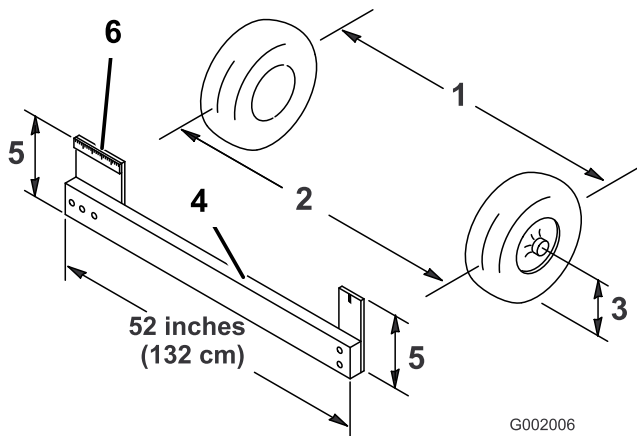

Figure 54
4. Measure the distance between both of the front tires at the axle height at both the front and rear of the front tires (Figure 54). A fixture or alignment gauge is needed for the rear measurement of the front tires at axle height. Use the same fixture or alignment gauge to accurately measure the front of the front tires at axle height (Figure 54).